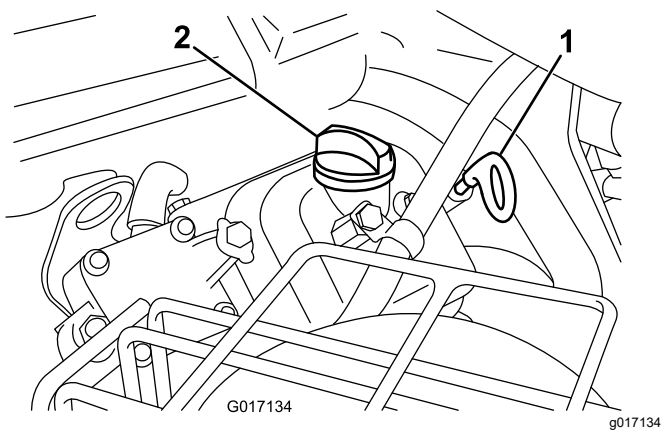

Figure 41
3. Insert the dipstick into the dipstick tube and thread it into the tube (Figure 41).